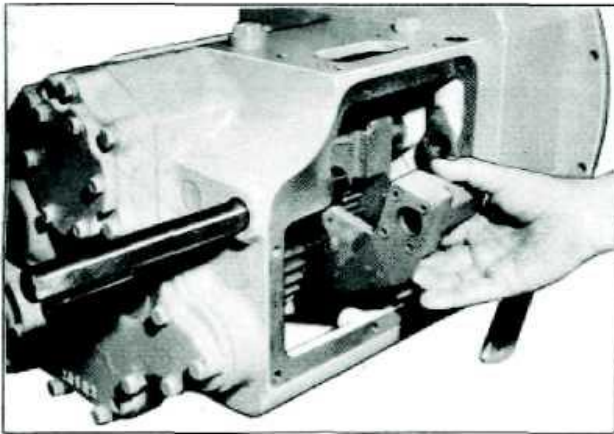

Fig. G.9 — Removing Selector Fork.
(5) With the selector setscrew removed, the rail can be pushed out through the rear of the gearbox and the selector fork removed. (See Fig. G.9.)